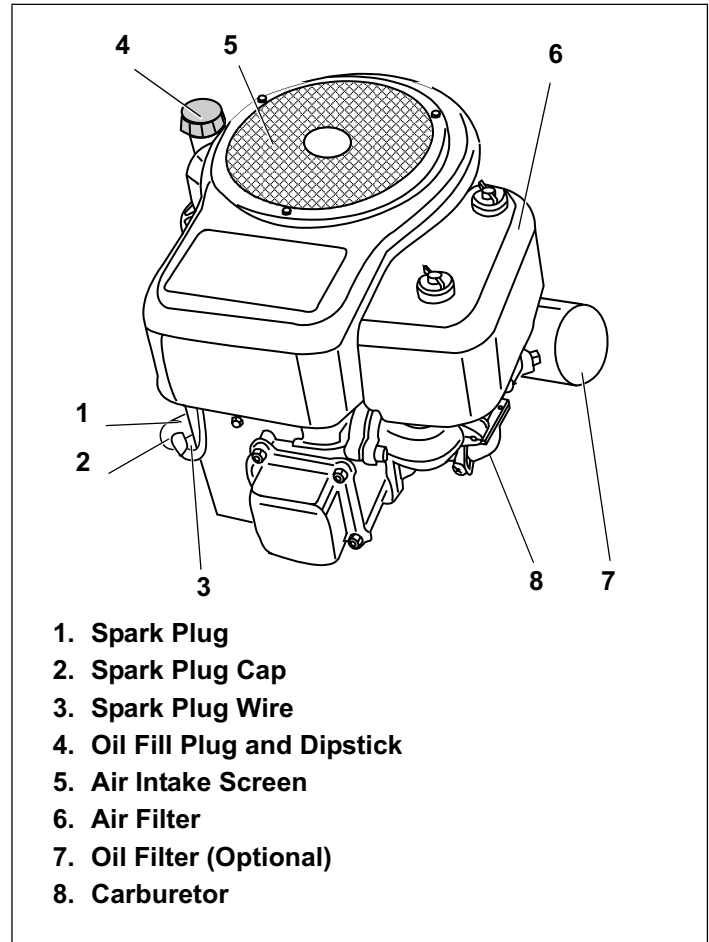

Figure 7. Engine with Oil Fill Dipstick
2. Unscrew oil fill cap from oil filler tube and wipe dipstick clean. See Figure 7.